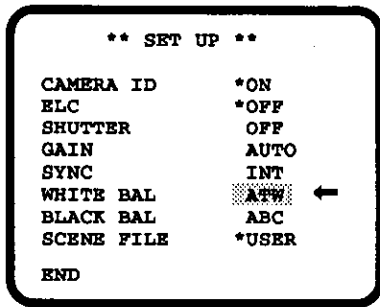

Fig.38.
- Display the SETUP menu as shown in Fig.38.